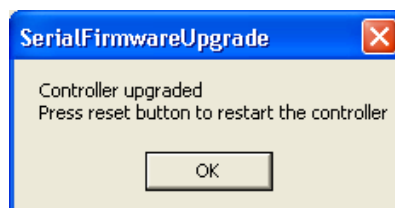

Figure 52. The Serial Firmware Upgrade window.
6. Select Firmware version1 from the drop-down menu and click **Upgrade**. File transmission starts to the controller. A confirmation window opens when the controller is upgraded, see Figure 52.